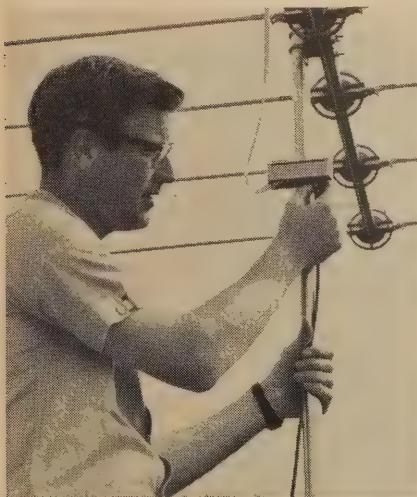

Fig. 5—Mast-mounted balun matches 300-ohm antenna to 75-ohm coax cable.
4. Its impedance is 75 ohms and it's an unbalanced line. This means that you need two matching transformers—one at the antenna and one at the set. Fig. 4 shows a 300- to 75-ohm balun (short for balanced-unbalanced) used to match set's antenna input to RG-59/U cable. At the other end of the line you use a 75-ohm to 300-ohm balun, as shown in Fig. 5.